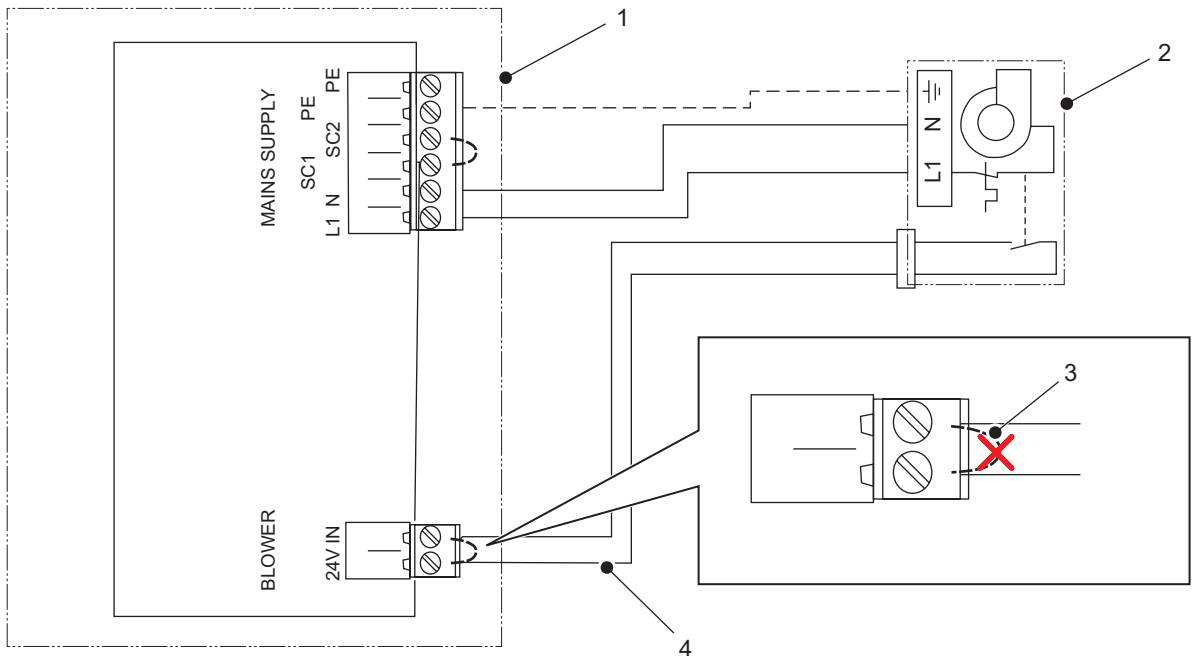

Figure 19: Driver Board Connections
- d. Wire and connect the power supply and security loop cables to the driver board inside the humidifier, as shown in Figure 19.